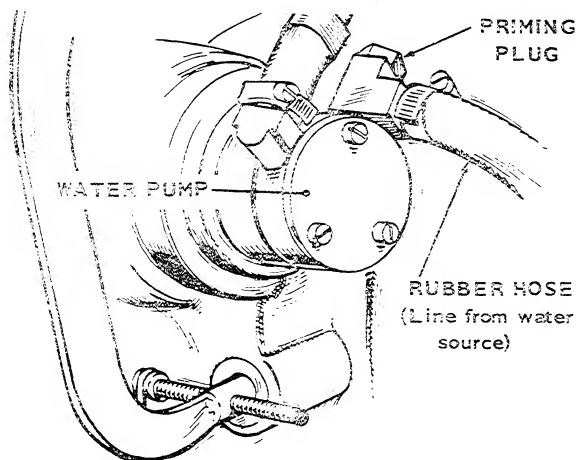

FIGURE 3. INLET HOSE TO WATER PUMP
A continuous supply of cooling water is required. The water pump inlet has a 1/8-inch U.S. national pipe fitting (see Figure 3). Use a section of flexible hose on the water inlet next to the generator set (or the entire run), either of copper tubing or flexible hose which will not collapse. The tubing must have an inside diameter of at least 1/8 inch or larger. Use Permatex or other pipe sealer on all pipe fittings in the supply line to the water pump.
1. Make sure the water pump has been primed (Figure 3 of *INSTALLATION* section).